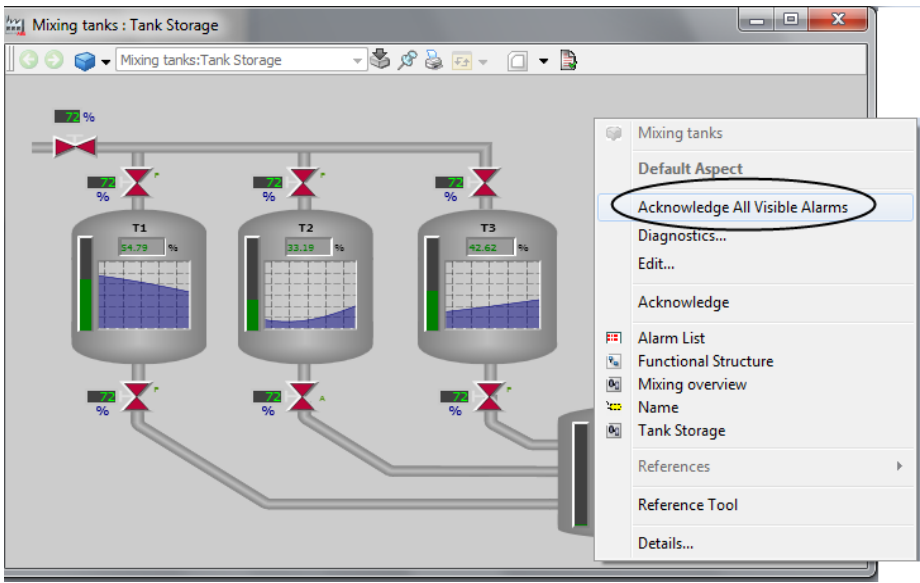

Figure 12. Context menu of a graphic aspect
2. Right-click the preview area of the graphic aspect and select **Acknowledge All Visible Alarms** from the context menu as shown in (see Figure 12).